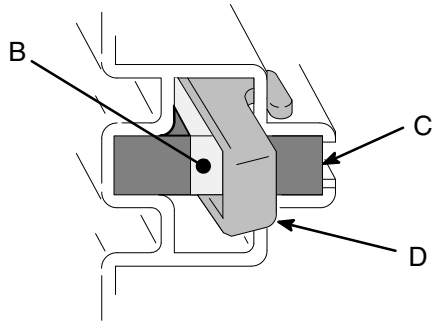

Fig 8
3. Push in spring clip (D) to unhook, and then pull out. See Fig 8.